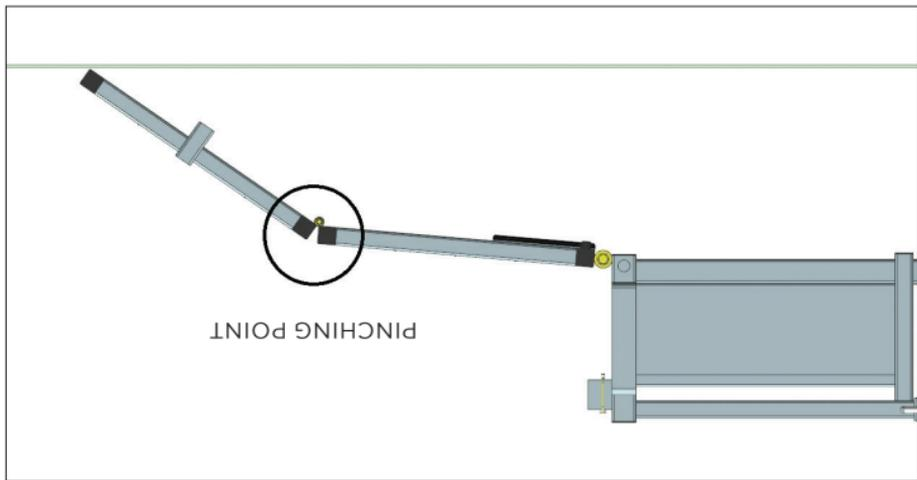

Figure 21: Potential "pinching point"
- 1.2. The trailer is ready to use in the tipping position. Fig. 21